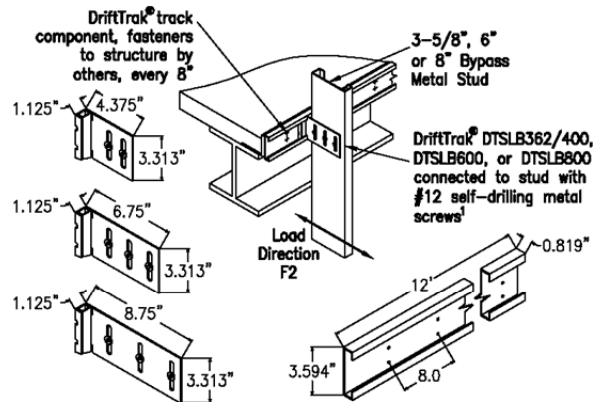

Figure 4 – DriftTrak® DTSLB362/400, DTSLB600 and DTSLB800
**3.1.5 DriftTrak® DTSLB:** DriftTrak® DTSLB362/400, 600 and 800 are L-shaped angle and track combinations that connect  $3\frac{5}{8}$ - or 4-, 6- and 8-inch-deep (92 or 102, 152, and 203 mm) exterior curtain wall steel studs, respectively, to a concrete floor slab's pour-stop angle while allowing a maximum of 2 inches (51 mm) of vertical movement, and free horizontal movement between exterior wall elements and the primary structure. The minimum base-metal thickness of the clip is 0.0677 inch (1.7 mm), and the minimum base-metal thickness of the track is 0.0966 inch (2.5 mm). The long leg of the DriftTrak® DTSLB connector, which is fastened to the curtain wall stud, has two or three vertical slots, each  $\frac{3}{8}$  inch (9.5 mm) wide by  $2\frac{3}{8}$  inches (60 mm) long and has bushings designed for No. 12 self-drilling/self-tapping steel screws installed in the centers of the slots. Refer to Figure 4 for overall dimensions of each DriftClip® DTSL connector and a typical installation detail.